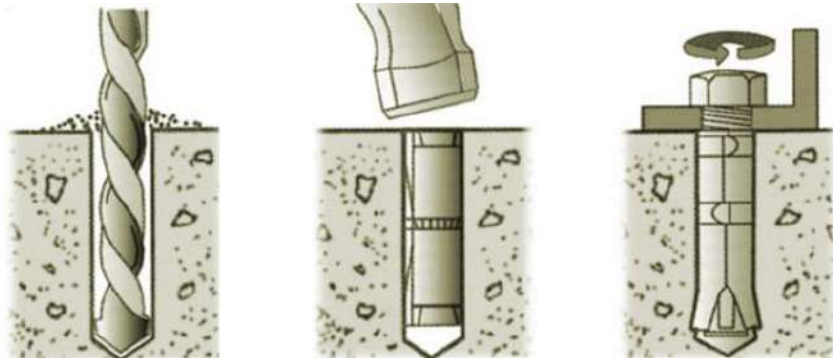
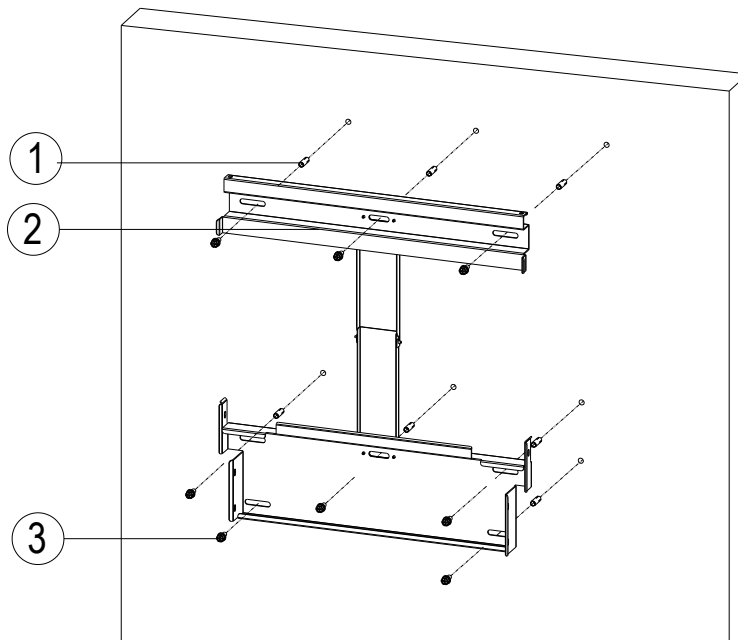

Figure 3-6 Drill holes, set Anchors, and tighten Assembling Bolts
Figure 3-7 Secure the Mounting Bracket
- a. **PV Racking Mount:** Locate holes or anchors at the marked positions; Fasten the **Mounting Bracket** ② with the **M8x25 Assembling Bolts** ③ supplied with the Accessory Kit. M8 nuts are not provided in the Accessory Kit. See Figure 3-7.
- b. Concrete Wall Mount: Drill holes at the marked positions with a 0.4in. (10mm) masonry bit and insert the **M8 Expansion Anchors** ① into the holes; Fasten the **Mounting Bracket** ② with the **M8x25 Assembling Bolts** ③ supplied with the Accessory Kit. Figure 3-6 and Figure 3-7.